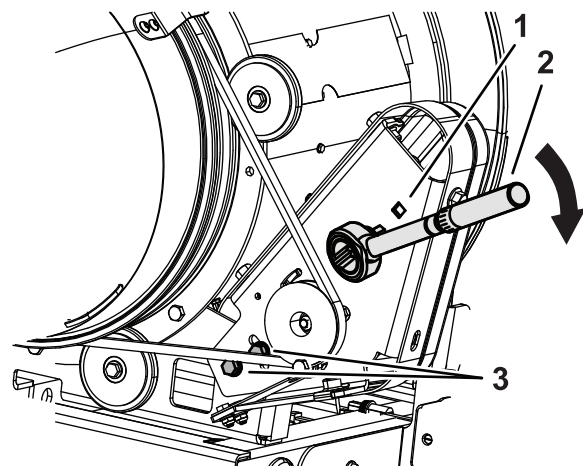

Figure 30
3. Insert the drive of a torque wrench into the pulley mounting bracket as shown in Figure 30.